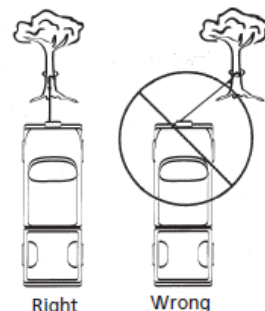

Figure 6
- AVOID CONTINUOUS PULLS FROM EXTREME ANGLES as this will cause the wire rope to pile up on one end of the drum (Figure 6). This can jam the wire rope in the winch, causing damage to the rope or the winch.